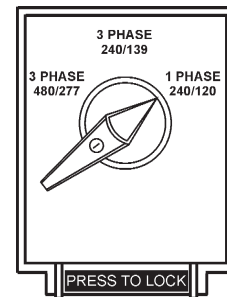

Figure 41. Voltage Selector Switch
4. Place the voltage selector switch in the desired voltage position (Figure 41).